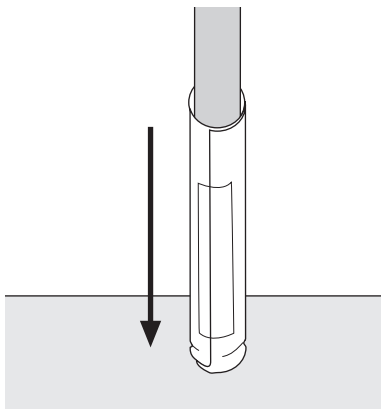

Figure 4: Creasing the paper
4. Bend this 1/4 inch of paper over to form a base, creasing the paper over the dowel end. (See Figure 4.)